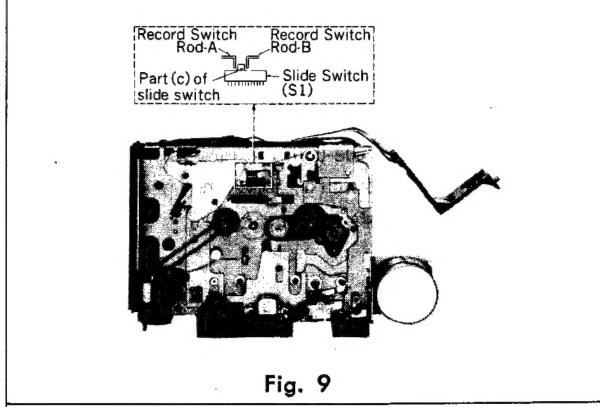

Fig. 9
- * When mounting the printed circuit board on the mechanism unit, check that the part (c) of slide switch (S1) between the record switch rods A (M35) and B (M36) is properly positioned, as shown in fig. 9.